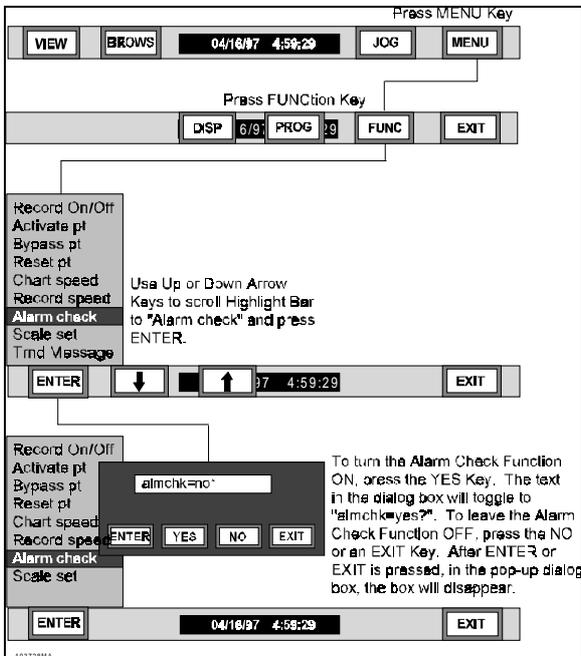

Figure 3-38 Alarm Check Function Flow Chart
G. Alarm Checks - This menu item controls the ON/OFF status of the Alarm Checks function. If NO is selected, a point's value will *not* be compared to the programmed alarm setpoint values, NO ALARM CHECKING WILL BE PERFORMED. To change the Alarm Checks status, perform the instructions below and refer to Figure 3-38: